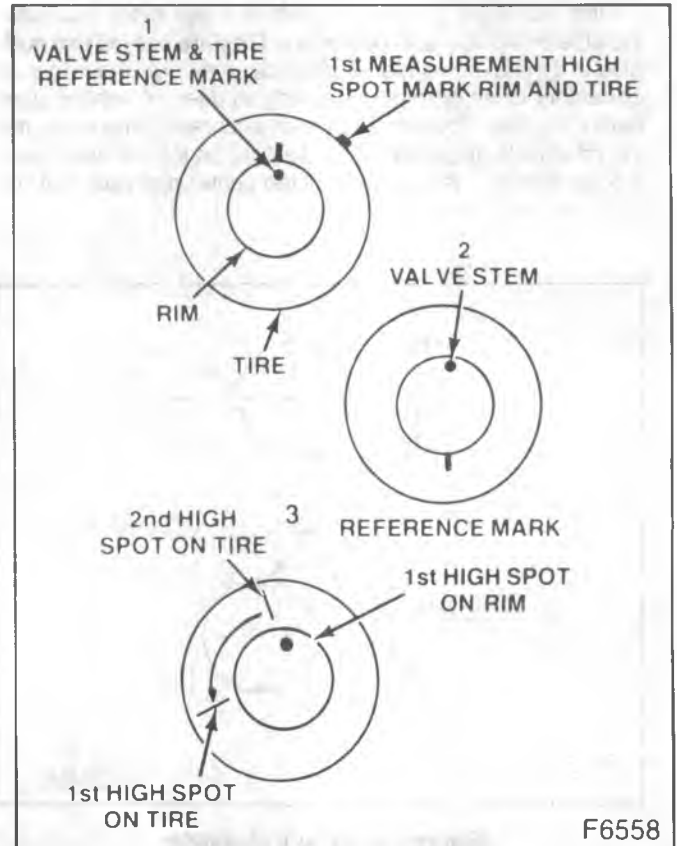

Figure 10. Match Mounting
1. **Tire to Wheel.** First determine the runout which needs to be minimized. If radial runout is the problem, take a measurement on the center tread rib (this is normally a solid rib, easy to measure and normally indicative of what the tire as a whole is like...but keep in mind that any rib with excessive runout can cause a problem). If lateral runout is the problem, take a measurement on the sidewall just below the edge of the shoulder tread pattern. Record the runout magnitude and put a crayon mark at the high spot location on the tire and also on the wheel. (Figure 10).
Take the assembly to the tire mounting machine. Put a reference crayon mark on the sidewall at the valve location. Break the assembly down and rotate the tire 180 degrees (half way around) on the rim so that the valve reference mark is opposite the valve stem. (Figure 10). Reinflate the tire and measure the runout in question. Record the magnitude and mark the high spot location on the tire.
3. If the high spot is not within 4" of either original high spots on the tire or wheel then draw an arrow from the second high spot to the first high spot (in the shortest direction, figure 10), and rotate the tire on the rim 90 degrees (1/4 turn) in that direction. This will normally reduce the runout to an acceptable figure.